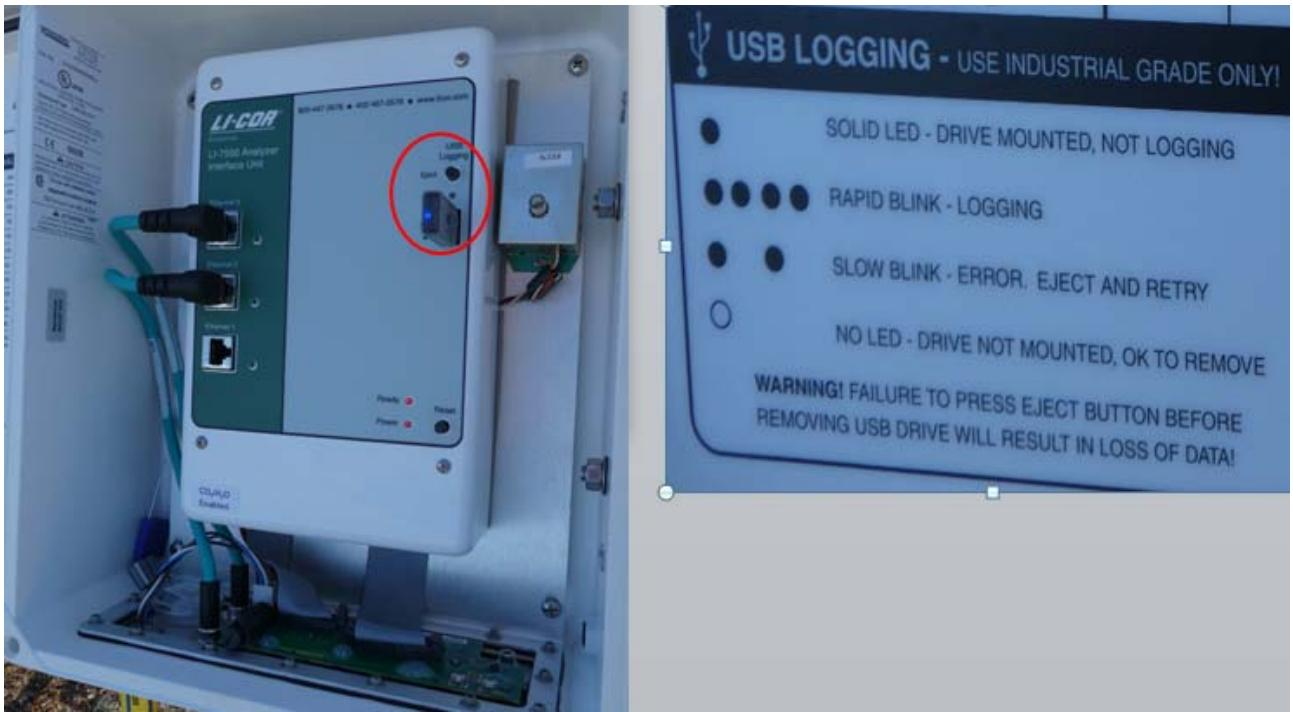

Figure 3.6 Position of the USB in the Analyzer Interface Unit LI-7550 (left) and info about the LED blinking
- After the USB is removed, replace it with another formatted Licor USB stick. When the formatted USB is inserted keep an eye on the LED light until the light indicates logging. It may take a short time (within seconds) while tables are created. When light starts to blink rapidly it indicates that the system has started logging. If logging does not start after a while then the LED will indicate error (figure 3.6). Try to eject and re-insert. If this does not work the system/station may need to be restarted (follow section 3.3 to power off system and section 3.4 to re-launch system)
The infrared gas analyzers (IRGA) need regular check and maintenance. To check that the instrument is functioning properly, one needs to have access to the analyzer via direct connection with a computer. In Østerlien, the analyzer interface unit is continuously connected to the computer in the garage. Thus the analyzer readings can be checked at any time on the computer screen, on the main window of the LICOR software (and the computer in the garage can be accessed via TeamViewer). Alternatively, it is possible to connect to the station in the field via the free Ethernet port in the Licor Analyzer Interface Unit (Figure 3.6)